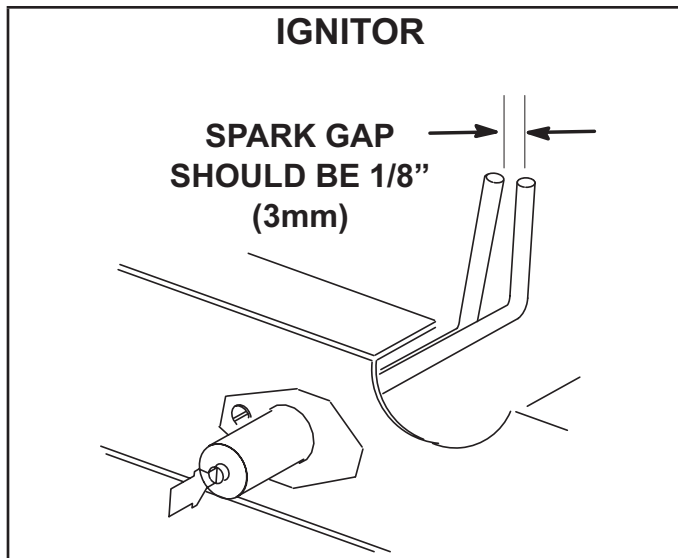

FIGURE 19
- 5 - Locate the ignitor under the right burner. Check ignitor spark gap with appropriately sized twist drills or feeler gauges. See FIGURE 19.